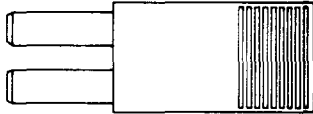

Fig. 19—443A Plug
2.17 443A: The 443A (Fig. 19) consists of a pair of flexible, coaxial plug fingers mounted in a metal shell. The plug fingers are connected to the inner and outer contacts, respectively, of the other finger and are not arranged for cord connection. This plug mates with two 560A jacks and is used in the L4 Mastergroup Multiplex.